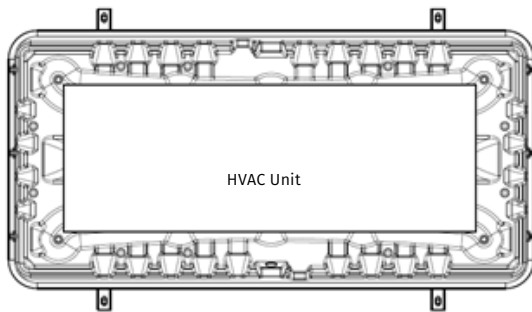

Figure 6
5. Position air handler in the center of the pan. (Figure 6)